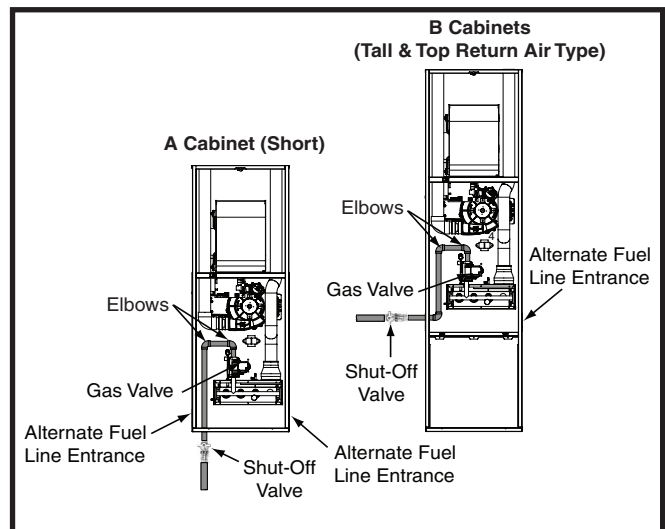

Figure 19. Typical Gas Connections
- Some local regulations require the installation of a manual main shut-off valve and ground joint union external to the furnace as shown in Figure 19. The shut-off valve should be readily accessible for service and/or emergency use. Consult the local utility or gas supplier for additional requirements regarding placement of the manual main gas shut-off.
The furnace is installed with a bottom gas entry. When connecting the gas supply, provide clearance between the gas supply line and the entry hole in the furnace casing to avoid unwanted noise and/or damage to the furnace. Typical gas hookups are shown in Figure 19.